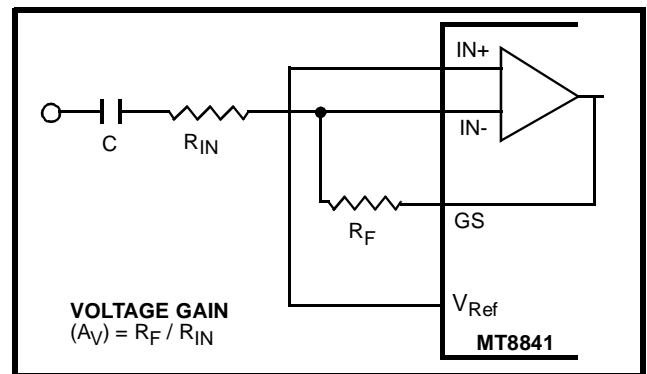

Figure 4 - Single-Ended Input Configuration
The input arrangement of the MT8841 provides an operational amplifier, as well as a bias source (V_{Ref}) which is used to bias the inputs at $V_{DD}/2$. Provision is made for connection of a feedback resistor to the op-amp output (GS) for adjustment of gain. In a single-ended configuration, the input pins are connected as shown in Figure 4.